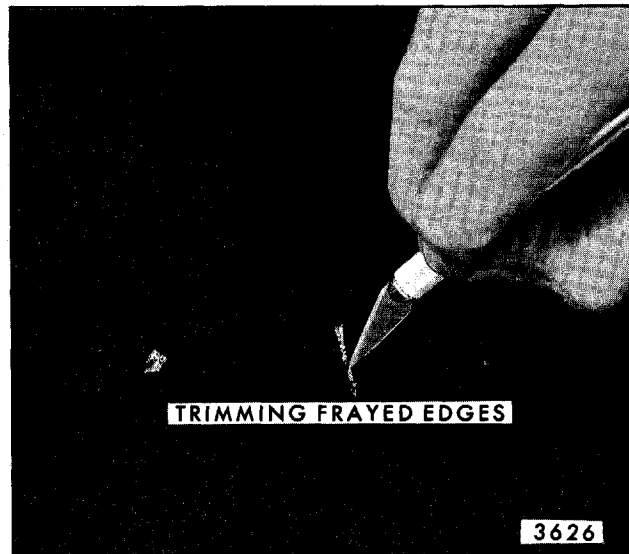

Fig. 8-52-Fabric Roof Cover Repair Trimming
- c. Using a razor knife, trim the damaged area to remove all frayed or damaged edges (Fig. 8-52).